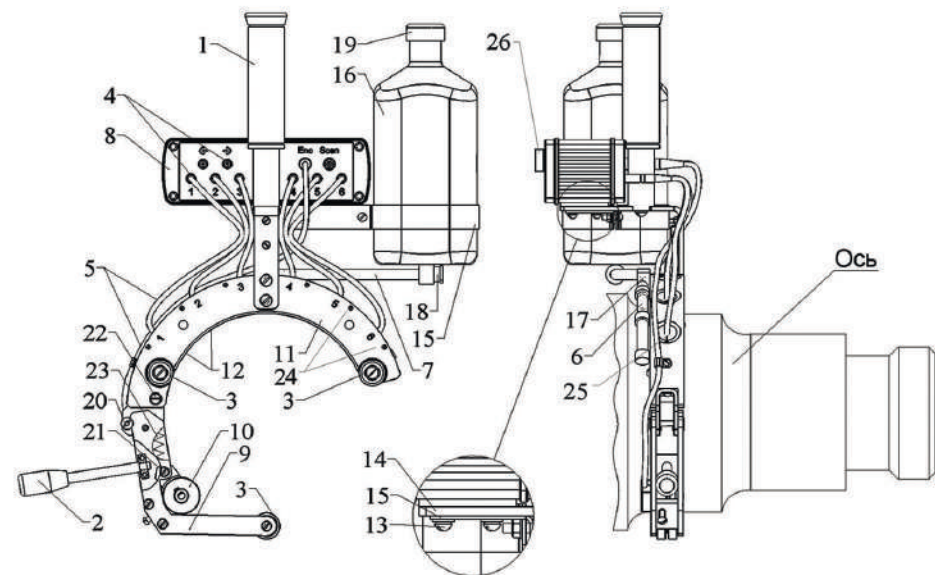

Fig. 1
General view of **USO-1TM** is shown in **Fig. 1**. The names of the main elements of the device are presented in **Table 3**.
**Note:** the image of the axis in the figure (Fig. 1) is shown conditionally.
**Contact with conductive liquid (for example, water) on the multiplexer connector pins (Fig. 1, position 4) is unacceptable.**
Also, beware of water getting inside the multiplexer housing (Fig. 1, position 8) when installing the tank (item 1.8.4), when the screws (Fig. 1, position 13) have been removed from the threaded sockets.
**1.7.3.2** Check the ease of rotation of the support rollers (Fig. 1, item 8).
1.8.1.3 In single-channel operation mode, the converters are switched manually using a switch located on the rear panel of the multiplexer (Fig. 1, item 26). In this case, the positions «BR1 ... BR4» correspond to schemes 1 ... 4. The loading of the setting corresponding to the connected converters must be carried out by the operator.
1.8.2.2 Take the device by the handle (Fig. 1, pos. 1) and, placing it on the outer side of the wheelset, pressing the handle pos. 2 in the upper position, set on the pre-riser part of the axle.